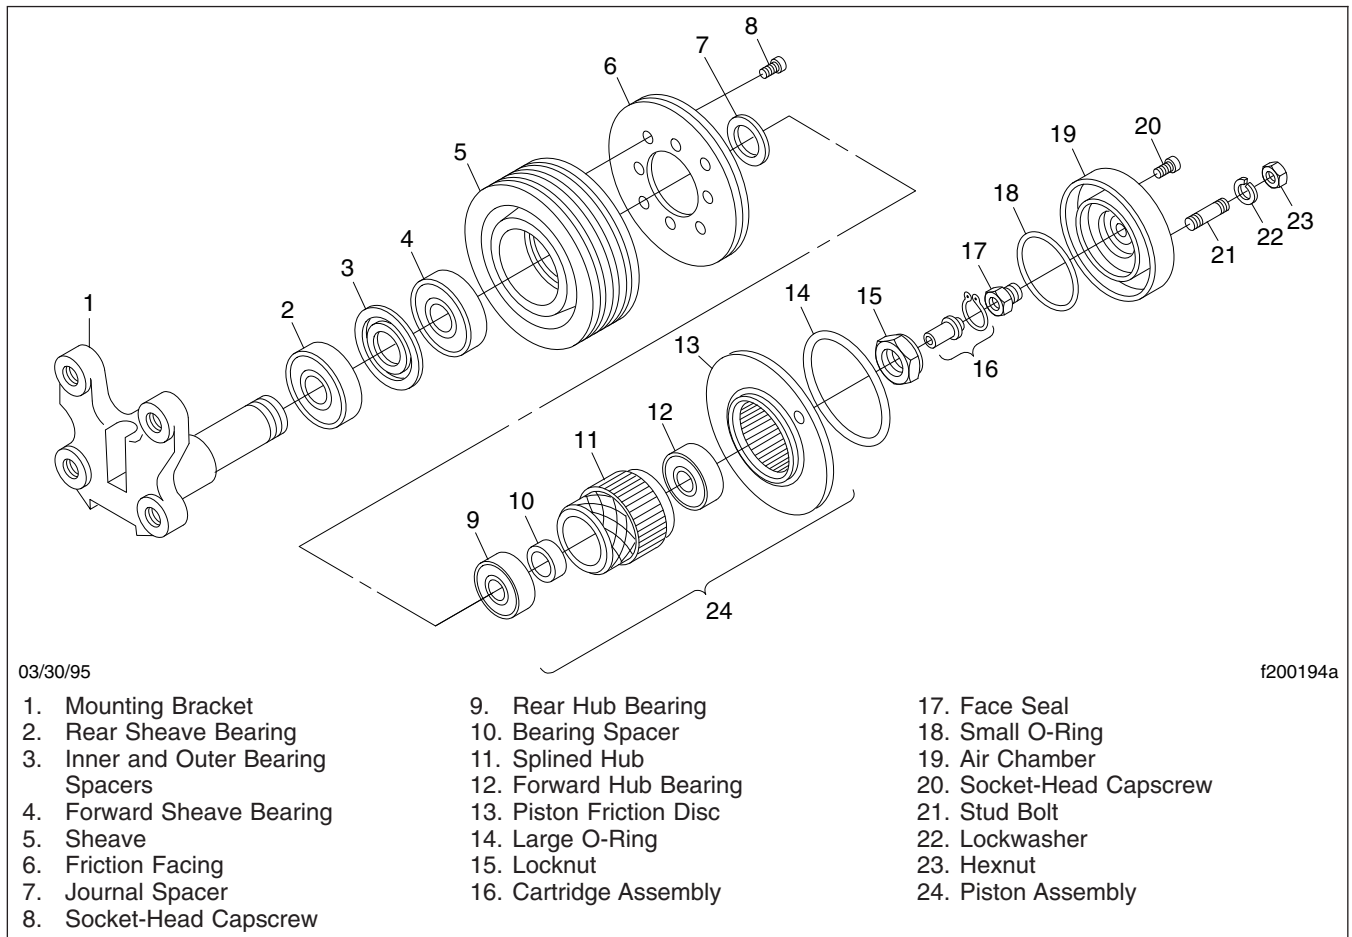

Fig. 6, Horton Advantage Fan Clutch Components
- 9.1 Check for a leak at the bleed hole on the fan pilot. Air leakage means the cartridge assembly (**Fig. 6**, Ref. 16) or face seal (Ref. 17) is damaged.